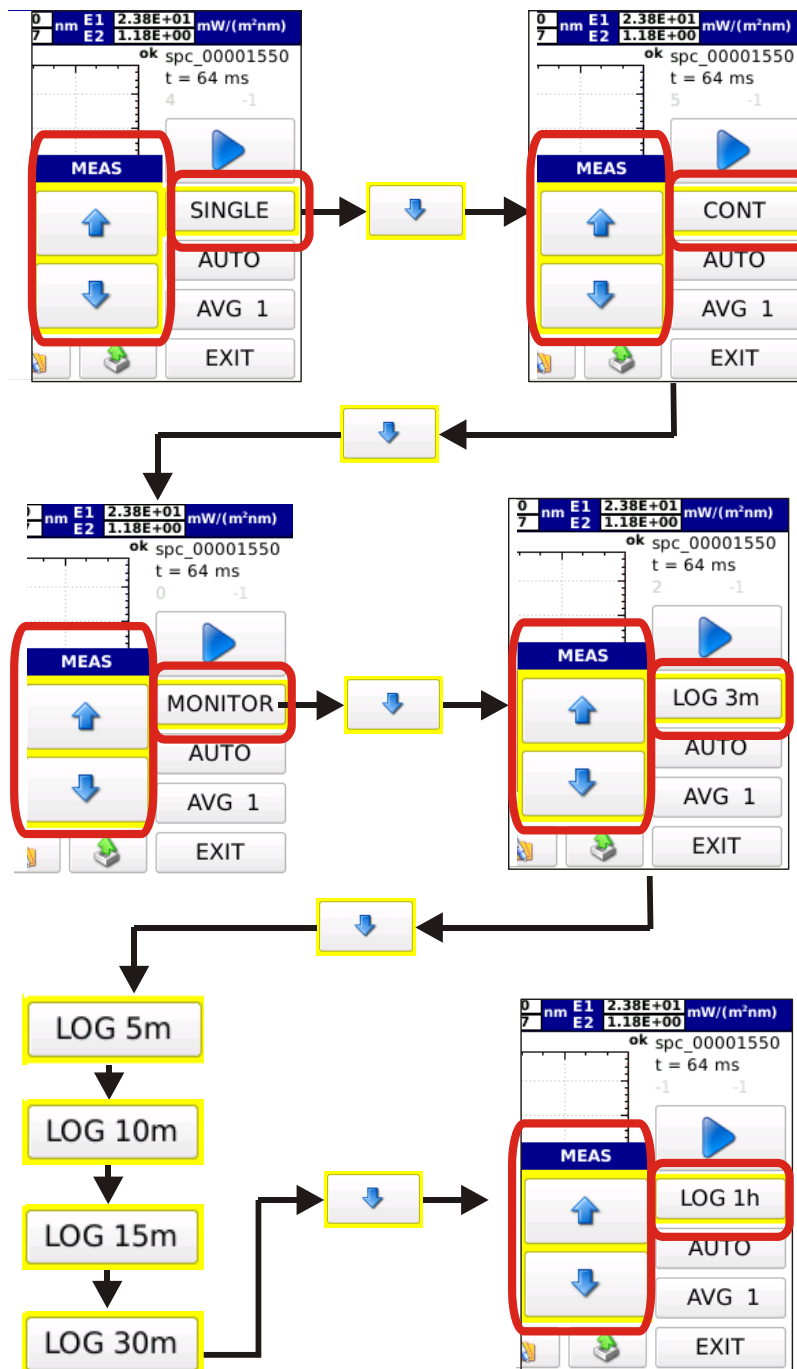

Fig. 3.11: operating mode selection using the arrow keys
3.2.1 Select the operating mode of the instrument among the four available modes (SINGLE, CONTINUE, MONITOR, LOGGING). By pressing SINGLE, the two scroll arrow cursors are displayed, pressing the down arrow makes the operating mode change as shown on Fig. 3.11.